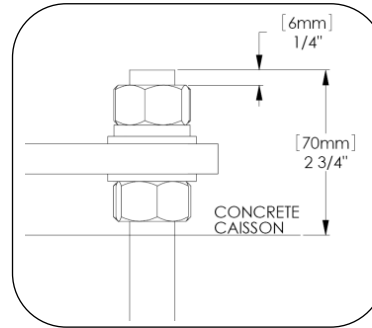

Fig. 4 – Proper installed anchor height
4. Lift the pole into position over the installed anchor bolts as shown in Fig. 4. Ensure that the base plate is resting on all four washers.